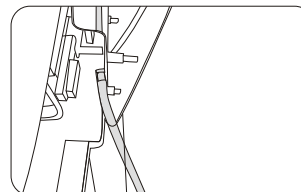

Figure 1
- Connect the air pipe on the back-end of armrest to the upper arm's. (figure 1)